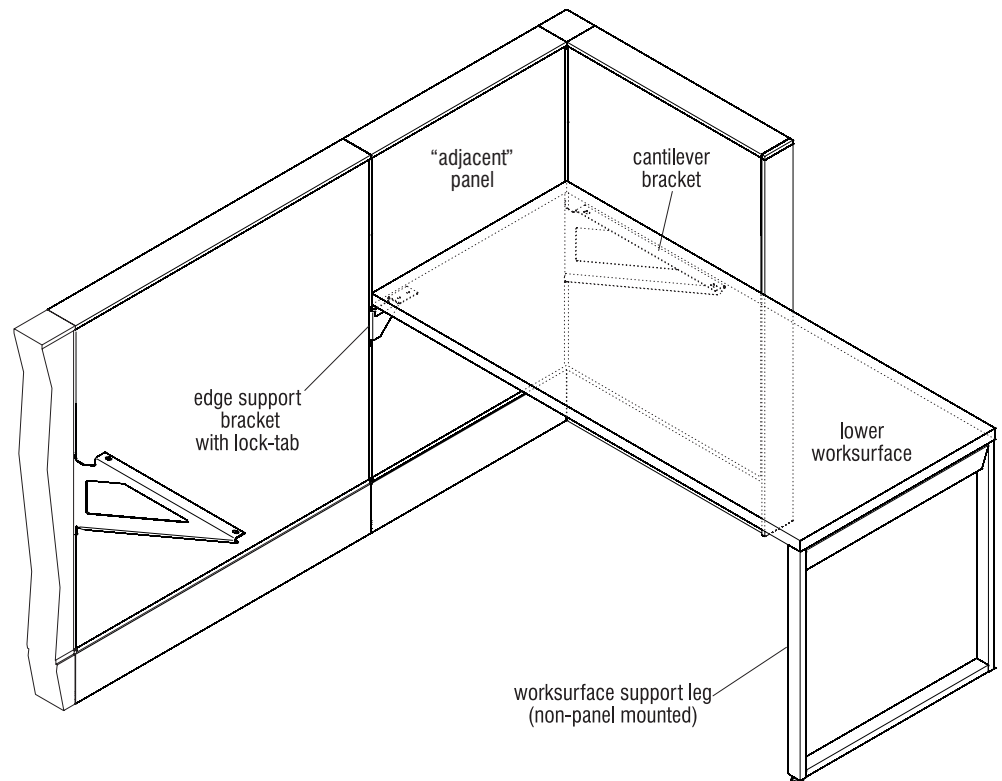

Figure 13 - Corner Change-of-Height Bracket (Lower Worksurface Installation)
2. Install the lower worksurface completely. Per the space-planning layout, the lower worksurface depth must match the width of the adjacent panel. The lower worksurface must be installed with an approved support bracket (cantilever bracket shown) on the back corner edge along with a worksurface edge support and lock on the other edge. For the example illustrated in Figure 13, the opposite end of the lower surface uses a non-panel mounted open leg (Figure 13).